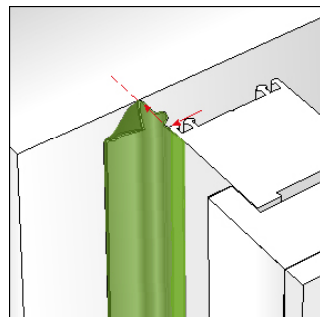

Fig 2: Positioning of the butyl strip
- Ensure that the membrane is located as in fig 2 after applying FM330 Pro Foam Air Seal (if required). If necessary, prime the reveal area where the butyl adhesive will be located with ME901 (brushable) or ME902 (spray) Butyl & Bitumen Primer.